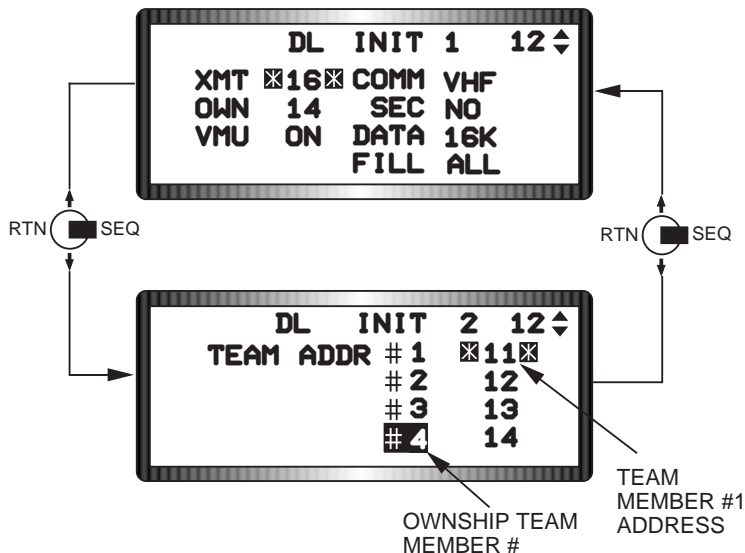

Figure 1-66 Team Address Entry
Fill Option. The FILL option on the DL INIT 1 page (See Figure 1-66) indicates whether the MMC will store or ignore the data received from A-G intraflight messages (markpoint, steerpoint, or Penguin data link targets). When the FILL option is ALL, the MMC stores the received markpoint or steerpoint message in steerpoint location 30 and Penguin targets in steerpoint locations 71 through 80. When the FILL option is NONE, the MMC ignores the messages and no HUD or VMU cues are issued.
Intraflight Team Address Entry. Team addresses (inflight positions) of up to four participating intraflight data link flight members are entered into the data link system on the DLNK INIT 2 page (Figure 1-66). They may be loaded from the DTC or manually using the UFC. Team addresses identify the individual ownership addresses of the participating flight members that will communicate with the intraflight data link system. Any number between 1 and 99 not ending in zero may be assigned as a team address as long as all flight members of the intraflight data link flight (two to four ship) have the same set of team addresses. However, team addresses are normally assigned according to flight call sign, i.e. 21, 22, 23, 24, etc., to simplify procedures. No two team addresses can be the same on the team address page. If a number is entered that is identical to an existing team address, the existing address is blanked to indicate that the team member position requires a different address.
When the pilot selects the DL INIT 2 page, his ownership team member (flight position) number is highlighted and the asterisks are positioned at the address of team member #1. His ownership address number from DL INIT 1 will be next to his team member number. For example, you are in a four ship flight with team addresses 11 through 14. If your ownership address is 14, the DL INIT 2 page will display the asterisks on address 11 and your flight position (4) will be highlighted followed by your ownership/team address (14) (Figure 1-66).